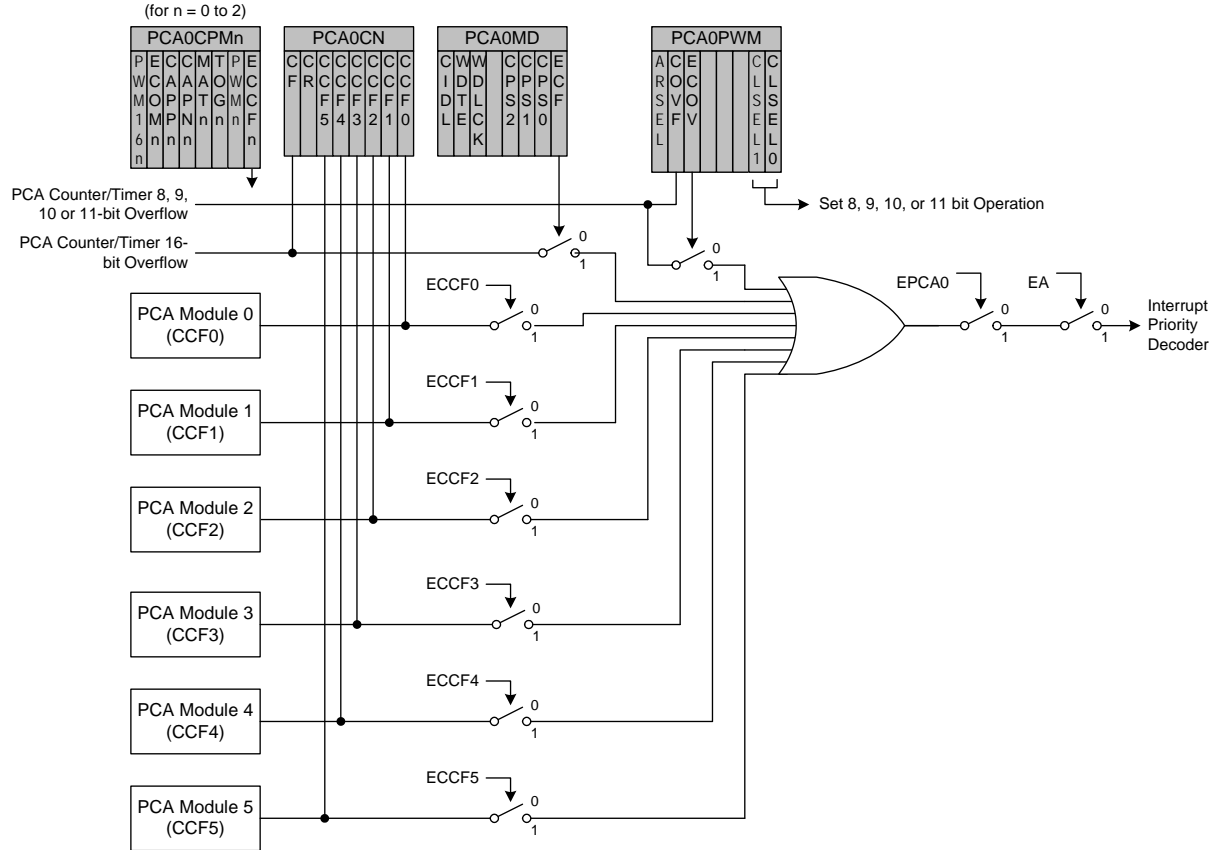

Figure 25.3. PCA Interrupt Block Diagram
Figure 25.3 shows a diagram of the PCA interrupt tree. There are five independent event flags that can be used to generate a PCA0 interrupt. They are as follows: the main PCA counter overflow flag (CF), which is set upon a 16-bit overflow of the PCA0 counter, an intermediate overflow flag (COVF), which can be set on an overflow from the 8th, 9th, 10th, or 11th bit of the PCA0 counter, and the individual flags for each PCA channel (CCF0, CCF1, CCF2, CCF3, CCF4, and CCF5), which are set according to the operation mode of that module. These event flags are always set when the trigger condition occurs. Each of these flags can be individually selected to generate a PCA0 interrupt, using the corresponding interrupt enable flag (ECF for CF, ECOV for COVF, and ECCFn for each CCFn). PCA0 interrupts must be globally enabled before any individual interrupt sources are recognized by the processor. PCA0 interrupts are globally enabled by setting the EA bit and the EPCA0 bit to logic 1.